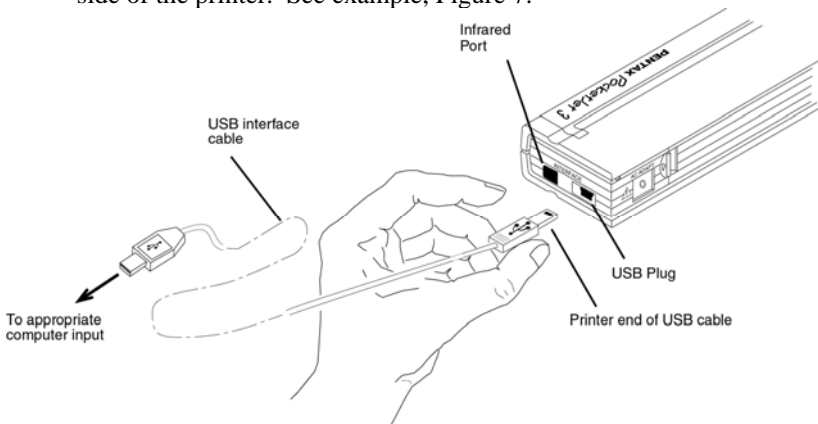

FIGURE 7. Connecting the PocketJet to your computer
3. Insert the printer end of the cable into the interface connector on the side of the printer. See example, Figure 7.